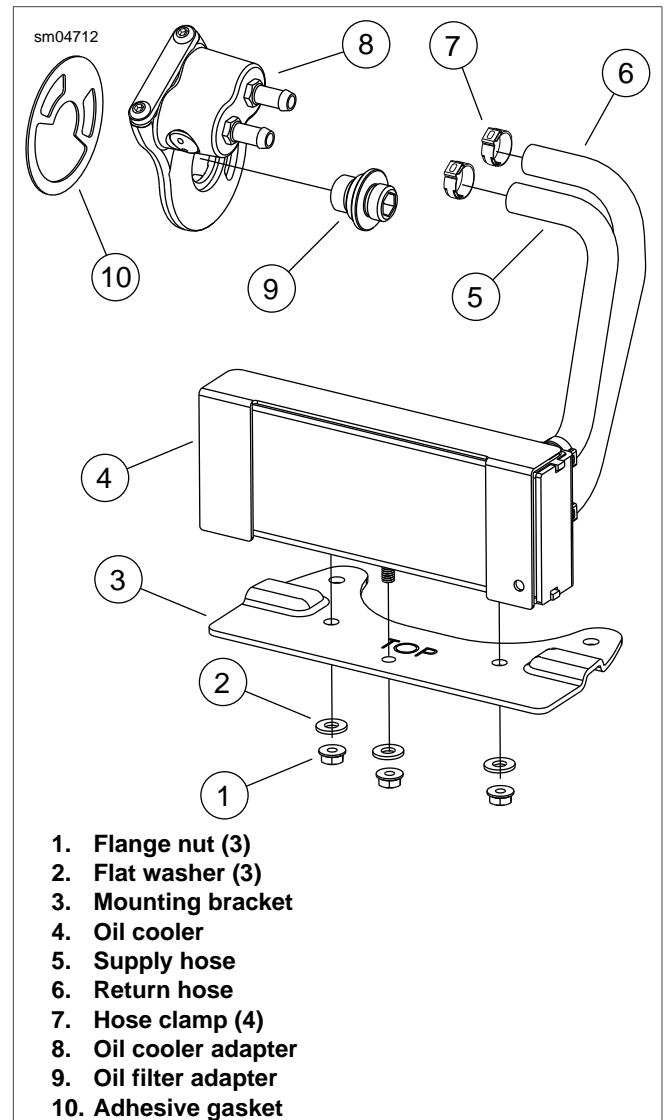

Figure 3-2. Oil Cooler Assembly
2. See Figure 3-2. Remove three flange nuts with flat washers. Raise oil cooler to free threaded studs from holes in mounting bracket.
4. Using internal hex, remove the oil filter adapter. Remove the oil cooler adapter and gasket. See Figure 3-2.